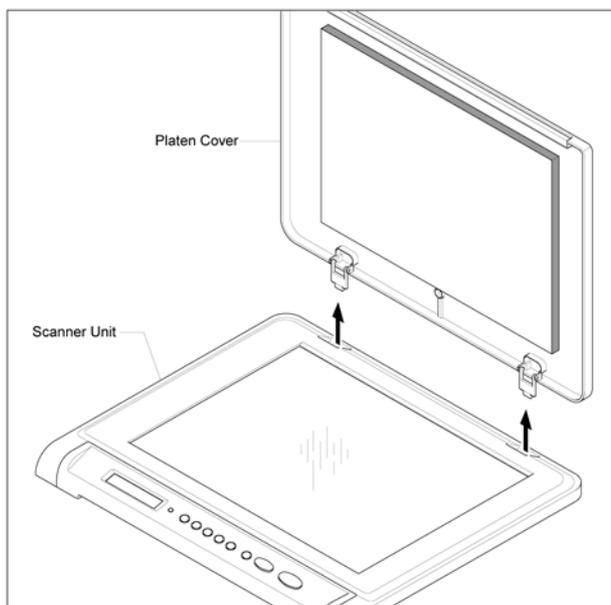

Figure 3
5. Lift the Platen Cover upwards then remove the Platen Cover, Figure 3.